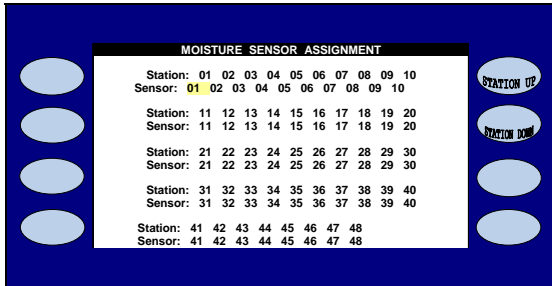

Figure 6
8.  Press the **SENSOR ASSIGNMENT** Menu key. This will take you to the MOISTURE SENSOR ASSIGNMENT SCREEN (Figure 6).